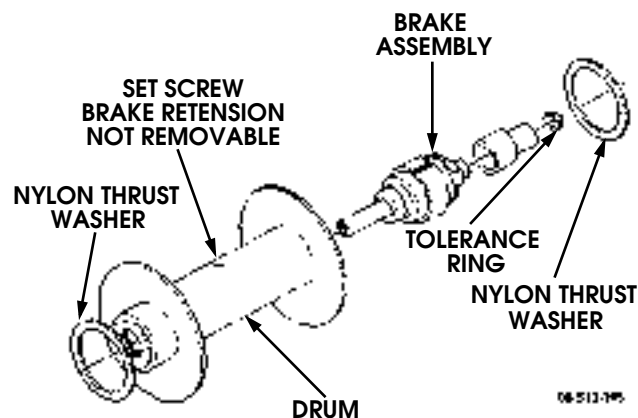

Figure 9-201: Thrust Washers and Brakes
8. Inspect brake assembly for damage (Figure 9-201).
17. With drum horizontal, install brake into drum (Figure 9-201).